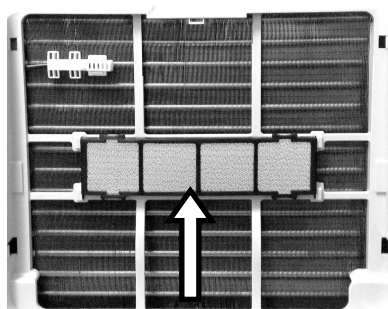

Fig. 7c
- Dry thoroughly before re-inserting the filters (Fig. 7c)